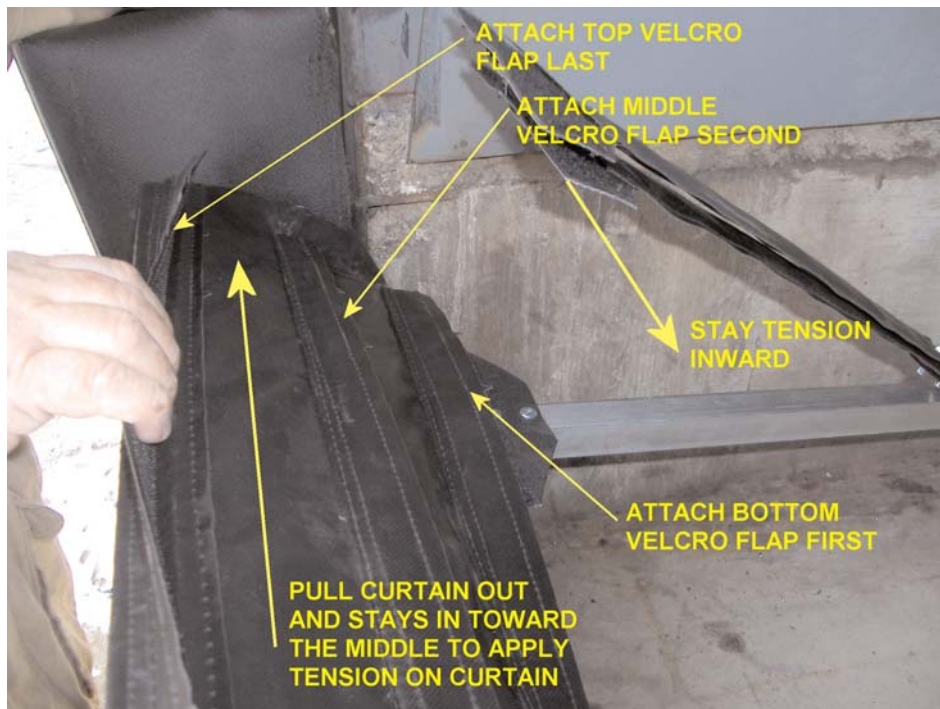

FIGURE 8
18. Attach the remaining top and middle curtain velcro flaps to the pivot arm velcro flaps. Do one side at a time. Do not pull too much tension outward at this point. Repeat with the other side. Now, readjust the attachments, increasing tension making sure it is centered. Try to pull the stays directly sideways as opposed to bending them. Start by attaching the lower, main arms to the lowest velcro flap. (See Figure 8.) Attach both sides first before attaching the upper stays.